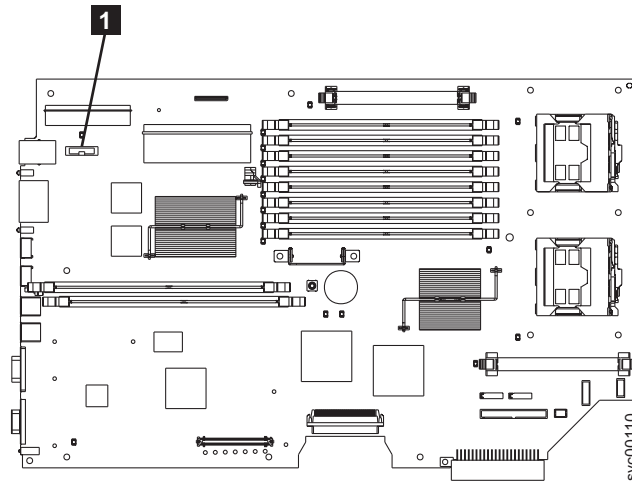

Figure 110. Location of the CMOS battery on the SAN Volume Controller 2145-8F2 or the SAN Volume Controller 2145-8F4
5. Locate the battery **1** on the system board. Figure 110 shows the location of the battery.